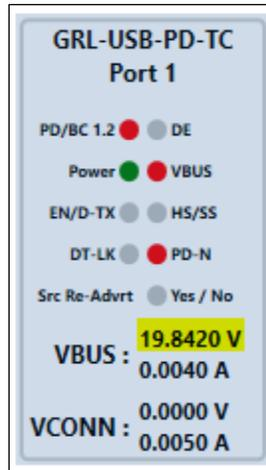

Figure 30. Observe Output Power
2. Observe that the requested values are displaying the output power properly as shown in Figure 30 below.